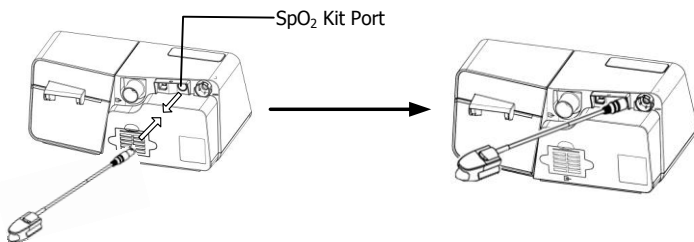

Fig. 14-2
- (1) Insert the SpO2 Kit connector into the **SpO2 Kit Port** of the device, as shown in Fig. 14-2.